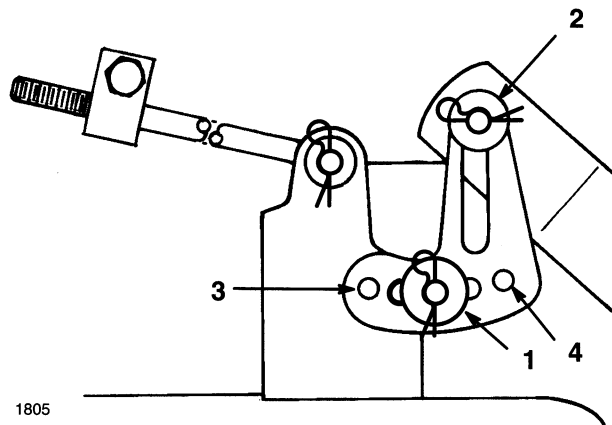

Figure 11
4. Remove the hair pin cotter and washer from the leveling bracket (Fig. 11). To level the blade(s), reposition the leveling bracket in a different hole and install the washer and hair pin cotter. (Fig. 11). A front hole lowers the blade height and a rear hole raises its height. Adjust both sides as required.